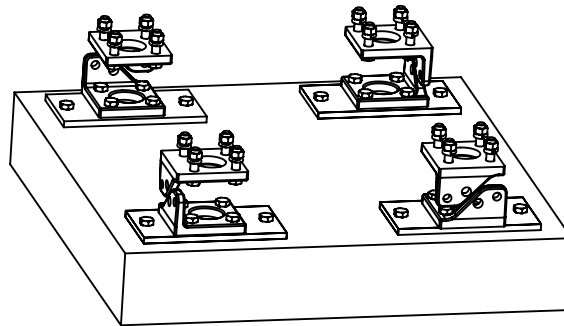

FIGURE 2
1. ORIENT MOUNTS (4) SO THAT THEY ARE ROTATED 90 DEGREES AS SHOWN IN FIGURE 2.
2. ATTACH TOP MOUNT TO BIN STRUCTURE USING 5/8" DIA. OR M16 BOLTS (3).